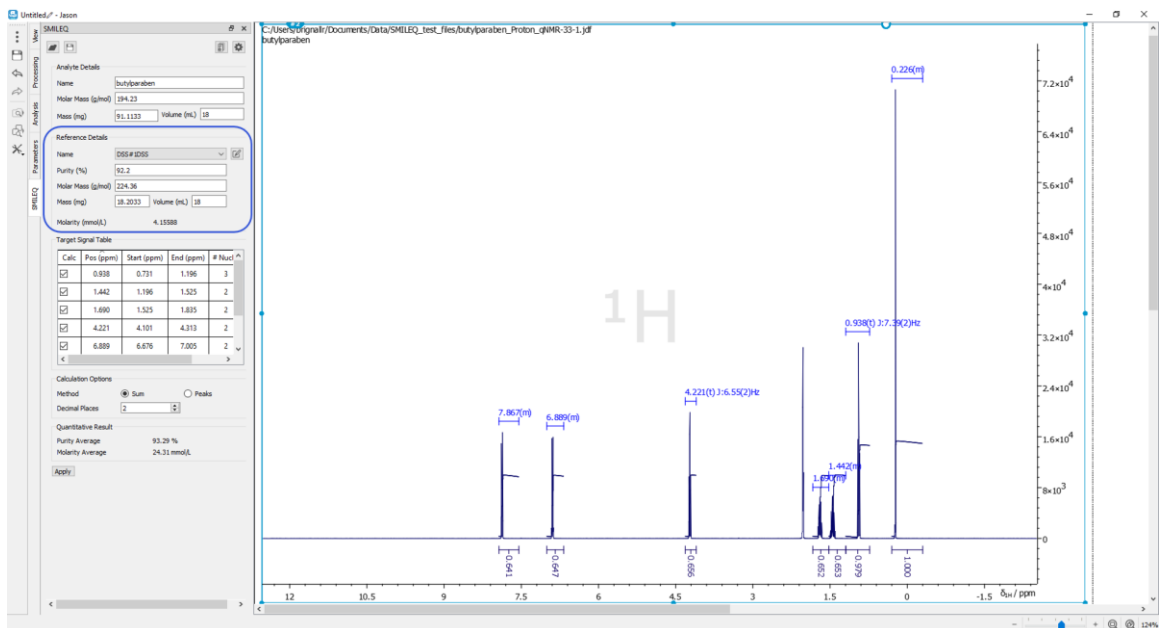

Figure 21: SMILEQ widget after selecting the reference
2. Select the SMILEQ widget and enter the required parameters in the sample information area (see section 2.1 for details of the necessary information and Figure 21).
- Fill in the box at reference information area. Select the desired reference from the **"Name"** and enter the reference parameters required for the analysis (see section 2.2 and Figure 21.)